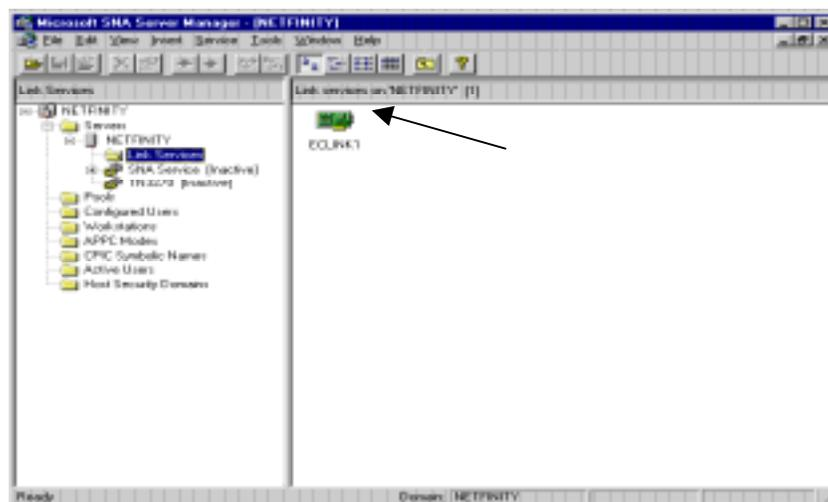

Figure 15-11. ESCON Link Service
1. In SNA Server Manager verify that a link service has been defined for the channel (Figure 15-11).